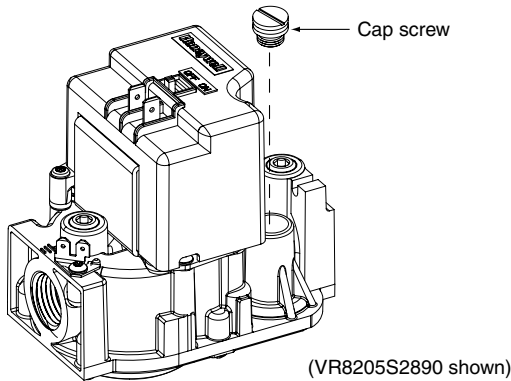

Figure 2. Gas Valve Capscrew
1. Remove the capscrew from the gas valve as shown in Figure 2.
7. Reinstall the cap screw (Figure 2).
- If the manifold pressure must be adjusted, remove the capscrew from the top of the gas valve regulator, as shown in Figure 2.
- Replace and tighten the capscrew (Figure 2) over the adjustment screw.